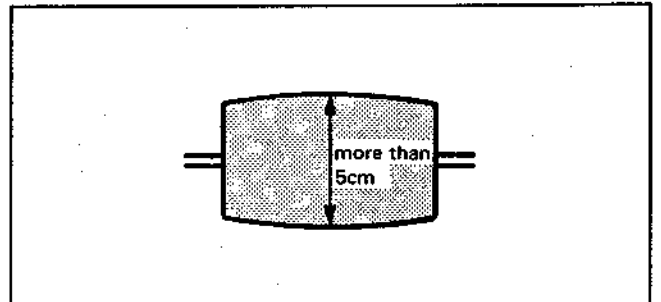

Fig. 2-4 Center Click Waveform
- 6) Return the tracking control knob to center click and confirm that the RF output waveform is more than 5cm. (Fig. 2-4) When it is less than 5cm, refer to the section on CTL position adjustment and perform coarse adjustment.